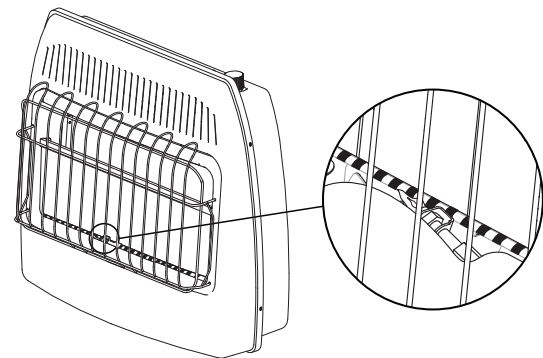

Fig. 24 - Pilot Flame Location
6. With control knob depressed, push down on the ignitor button until the pilot lights. The pilot is visible centered below the plaques, behind the front grill. (See Fig. 24)
7. Keep control depressed for (30) seconds after pilot lights. Release control knob.